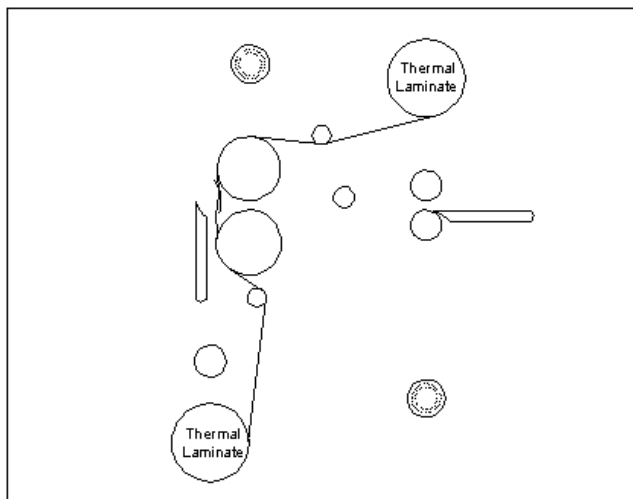

Fig 23
6. Pull the lower film behind the lower idler bar and up towards the film draped over the top heat roller (Figure 23).